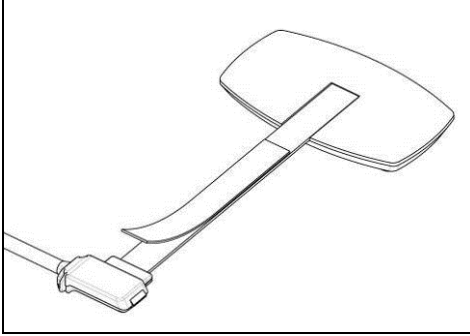

Fig. 14
- For better grip to the helmet, if necessary, apply the “M1 wiring bi-adhesive” supplied as standard equipment to the back of the keypad flex cable. Fig. 14